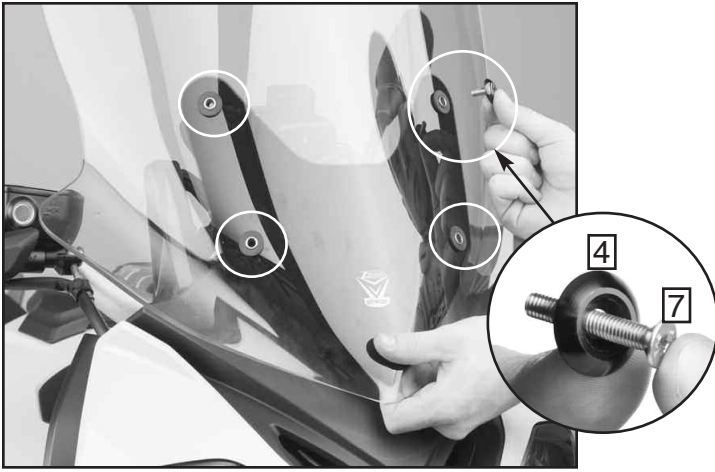

Figure 5
4. Assemble a M6 Flat Screw (7) and Cap (4) as shown. Install Windshield to Bracket (2) using this assembly, and a Cap Nut (6). The Cap Nut (6) is to be installed on the back side of Bracket. Repeat procedure at all 4 holes. **Figure 5 and 6 (4mm Hex Key, 10mm Box Wrench)**